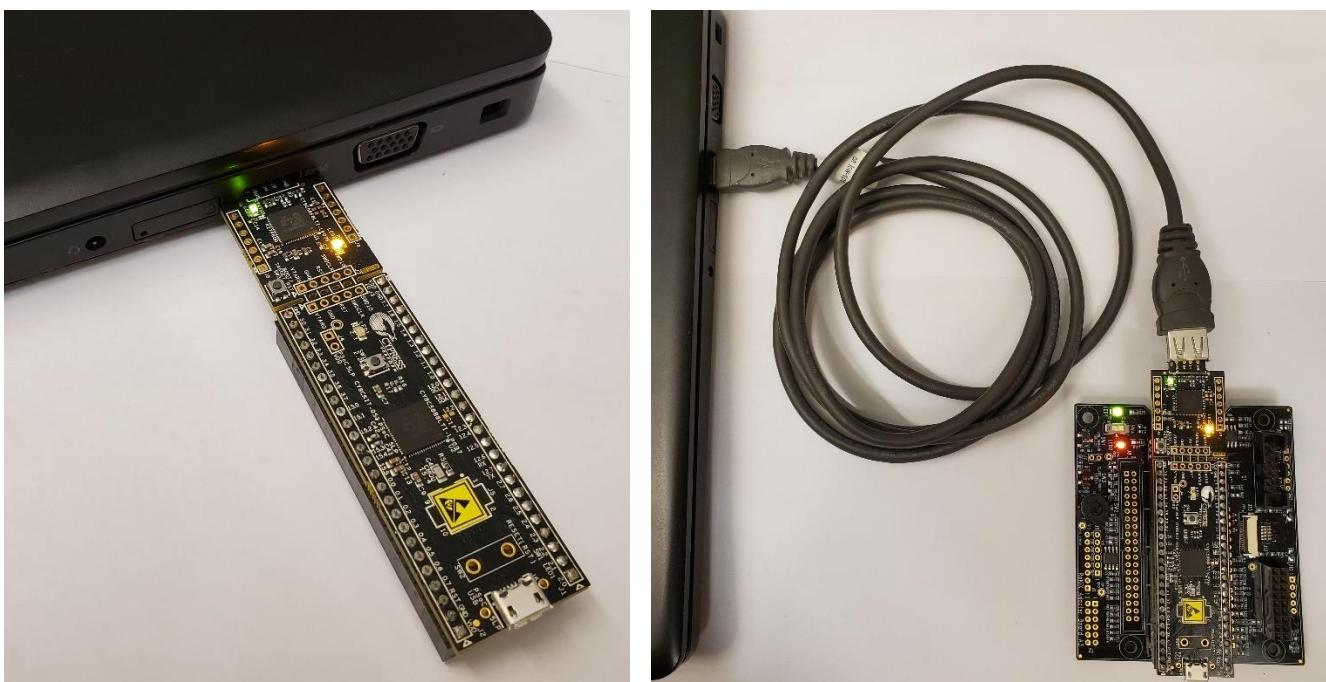

Figure 22: CY8CKIT-059 Prototyping Kit Connected to the PC
3. Connect the CY8CKIT-059 Prototyping Kit into the USB port of the PC directly or with an *USB extension cable A-Male to A-Female* as shown in Figure 22.